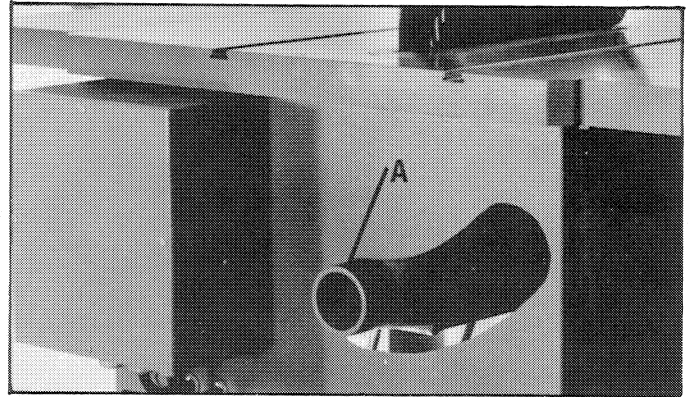

Fig. 39
The lower half of the saw blade is completely covered with a large chip exhaust chute (A) Fig. 39. The exhaust chute moves with the saw arbor when the blade is tilted. The diameter of the opening of the exhaust chute is 3" O.D. and easily attaches to a central dust collection system.